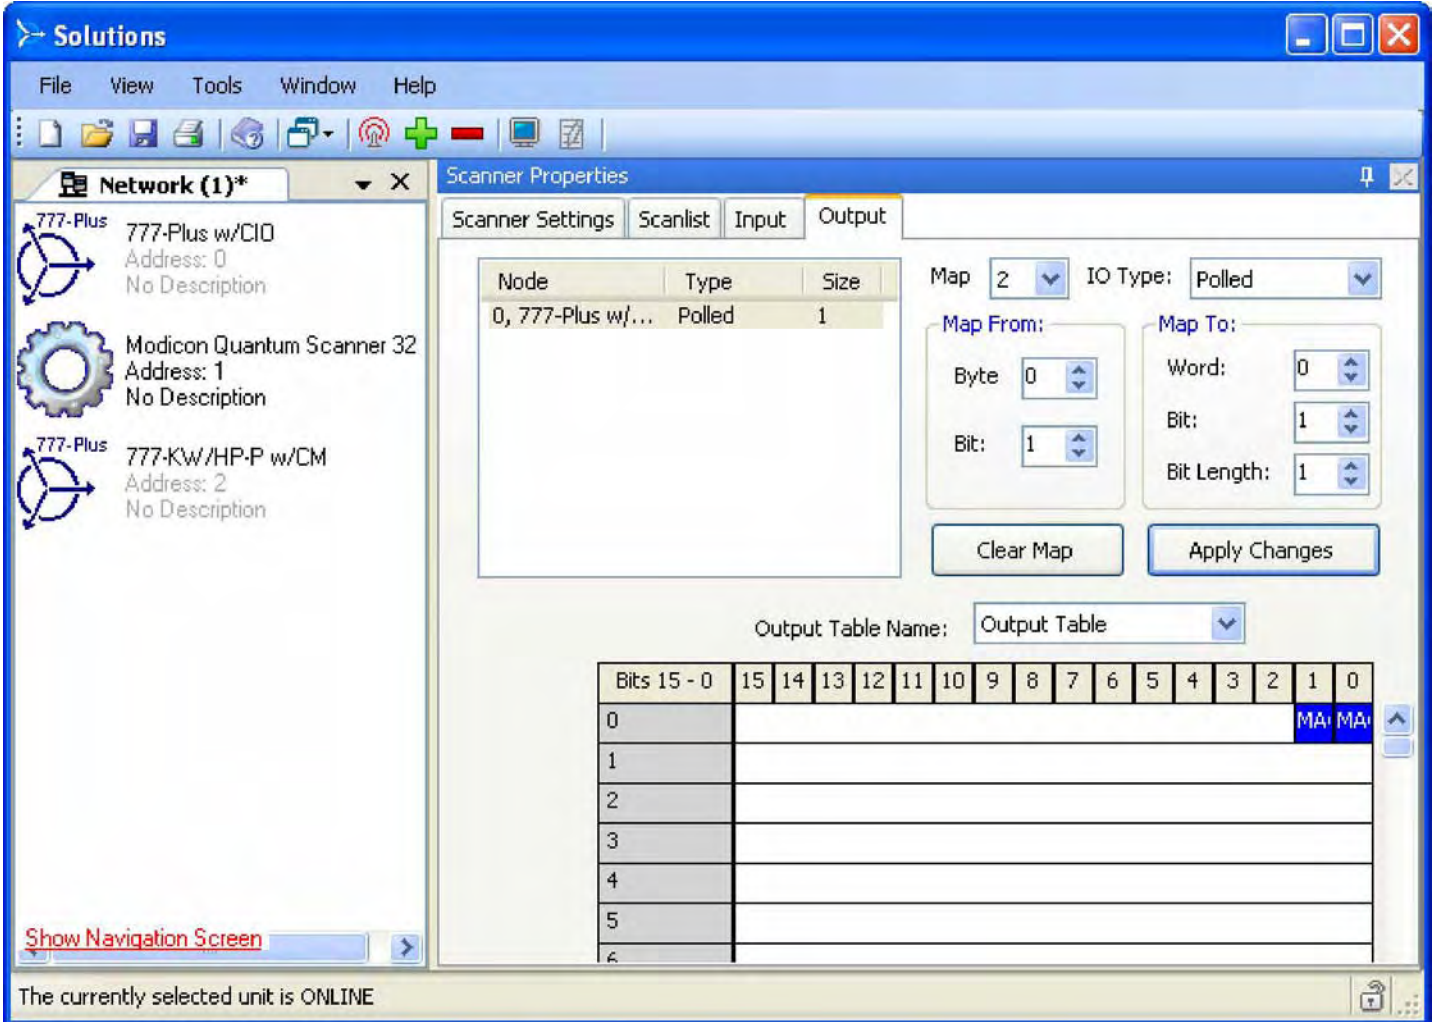

Figure 18-Output Map
- Step 34. Repeat Step 26 through Step 33 for all parameter to be mapped. In the case of output assembly 4 there are only 2 relay bits to map as shown in Figure 18.